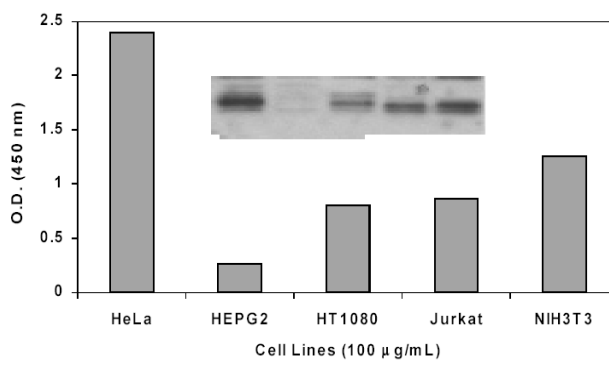

Figure 3 Expression of CREB in various cell lines
- The data presented in Figure 3 show that the kit detects CREB protein in cell lysates from human HeLa, HEPG2, HT1080 and Jurkat cells and mouse NIH 3T3 cells.